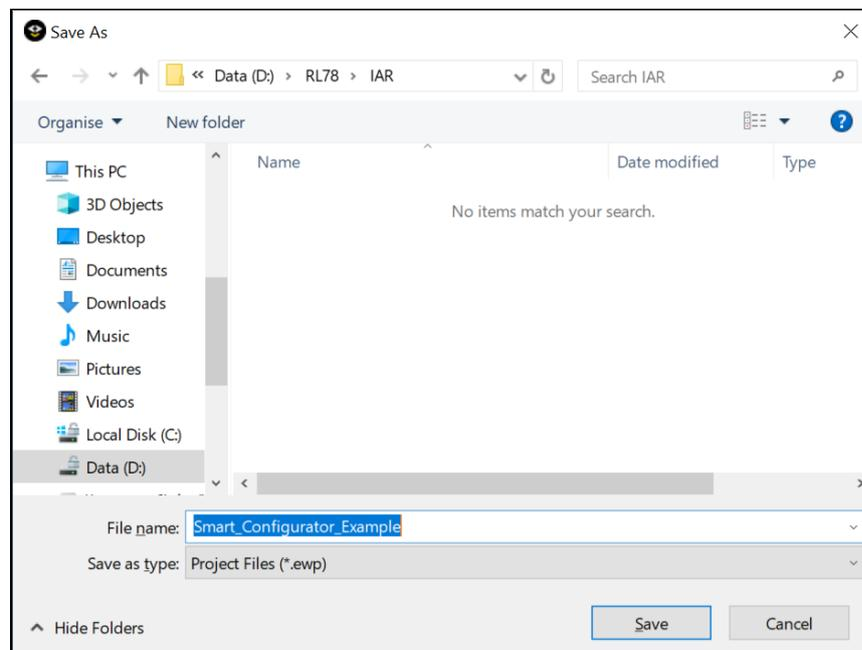

Figure 2-2. Specify *.ewp File
- (1) In [Platform:] panel, select the device.
- (2) In [Toolchain:], select [IAR RL78 Toolchain].
- (3) In [File name:], enter the file name.
- (4) Confirm [Location:]. Please make sure the destination path is the same as IAR C project file path (refer to Figure 2-2 Specify *.ewp File).
- (5) Click [Finish] to create the configuration file.